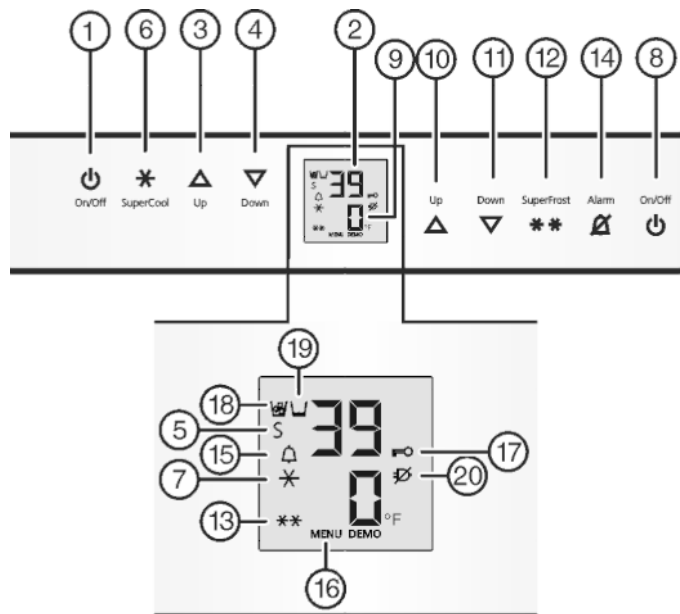

Fig. 3
- ▶ Press On/Off button, freezer compartment *Fig. 3 (8)*.
- ▶ Press Fridge compartment On/Off button *Fig. 3 (1)*.
- ▷ The fridge section is on: Fridge temperature display *Fig. 3 (2)* is on. When the refrigerator compartment door opens the interior light comes on.
- ▶ Activate setting mode: Press SuperFrost button *Fig. 3 (12)* for about 5 seconds.
- ▷ The Menu symbol *Fig. 3 (16)* lights up.
- ▶ Using Freezer compartment Up button *Fig. 3 (10)*/ Freezer compartment Down button *Fig. 3 (11)* select °.
- ▶ To confirm: Briefly press SuperFrost button *Fig. 3 (12)*.
- ▶ Using Freezer compartment Up button *Fig. 3 (10)*/ Freezer compartment Down button *Fig. 3 (11)* select °F or °C.
- ▶ To exit setting mode: Press Freezer compartment On/Off button *Fig. 3 (8)*.
- ▶ Activate setting mode: press and hold the SuperFrost button *Fig. 3 (12)* for approximately 5 s.
- ▶ Using the Freezer compartment Up button *Fig. 3 (10)* or Freezer compartment Down button *Fig. 3 (11)*, select c.
- ▶ Press the SuperFrost button *Fig. 3 (12)* briefly to confirm.
- ▶ To switch on the child-proof lock, press the SuperFrost button *Fig. 3 (12)* briefly.
- ▷ The Child safety symbol *Fig. 3 (17)* lights up. c flashes on the display.
- ▶ To switch off the child-proof lock, press the SuperFrost button *Fig. 3 (12)* briefly.
▷ The Child safety symbol *Fig. 3 (17)* goes out. **c** flashes on the display.
▶ Deactivate setting mode: press the Freezer compartment On/Off button *Fig. 3 (8)*.
▶ Press Alarm button *Fig. 3 (14)*.
At the same time, the Alarm symbol *Fig. 3 (15)* will flash.
The audible warning automatically ceases, the Alarm symbol *Fig. 3 (15)* goes out, and the temperature display stops flashing when the temperature is cold enough again.